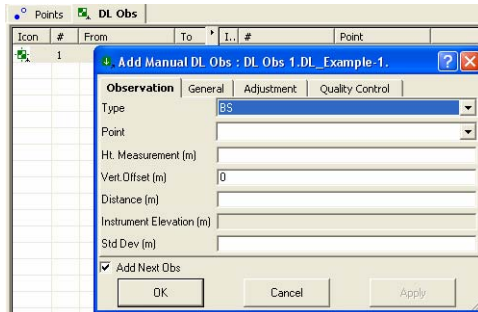

Figure 5-95. Add Manual DL Obs Dialog Box
3. After clicking OK in the *Add Manual DL Run* dialog box, the *DL Obs* tab and the *Add Manual DL Obs* dialog box will display (Figure 5-95)